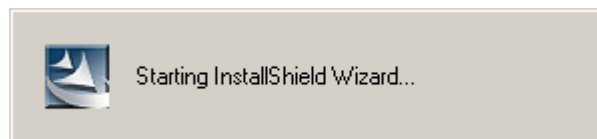

Figure 7-34: The InstallShield Wizard Starts
Step 4: The **InstallShield Wizard** starts (**Figure 7-34**).